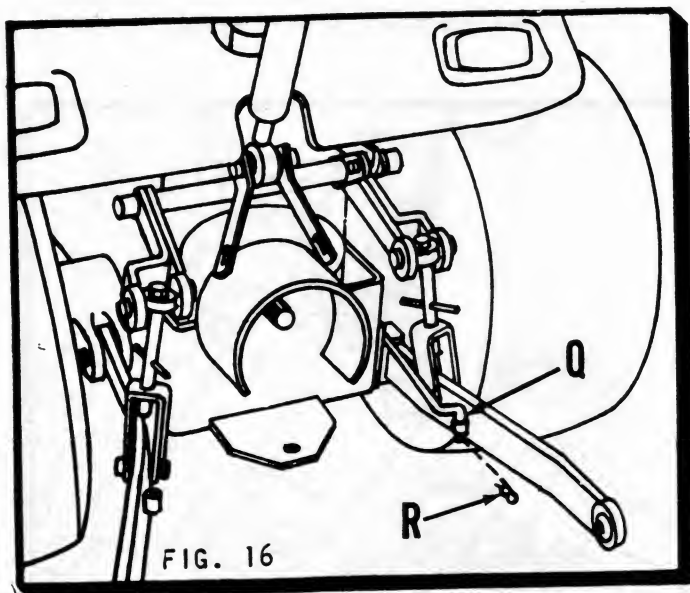

FIG. 16
1. For John Deere tractor assemble anti-sway bracket (Q) between right hand tractor three point hitch arm and tractor frame. Secure with hair cotter pin (R). (Fig. 16)
1. Adjust lift links (A) on tractor three point hitch arms until sickle bar three point mast assembly (E) is level from side to side. (Fig. 16)